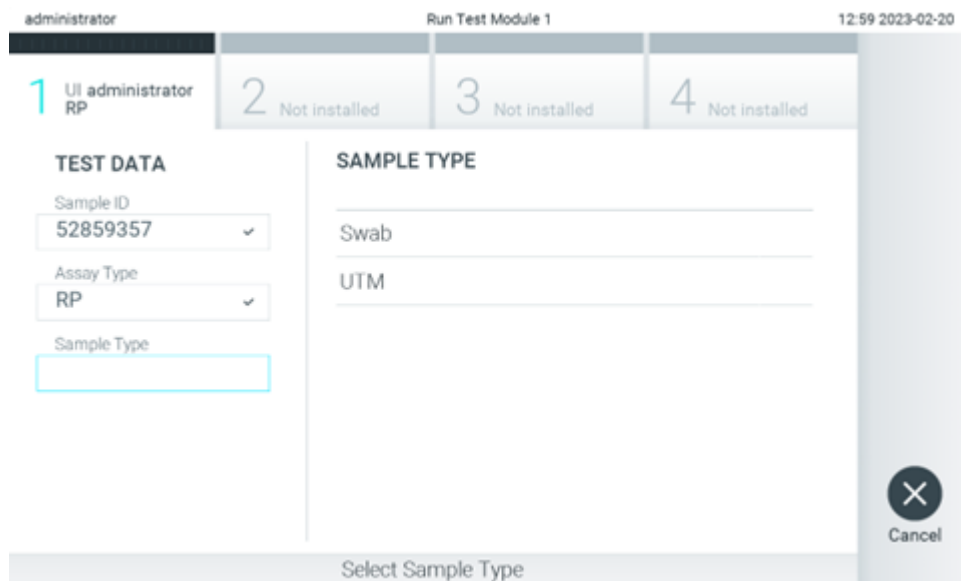

Figure 25. Selecting sample type.
4. If required, select the appropriate sample type from the list (Figure 25).